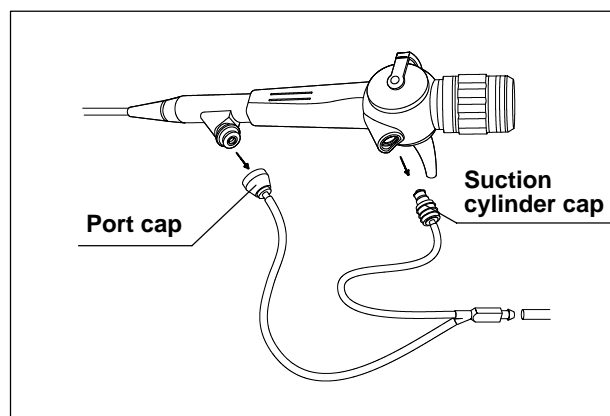

Figure 7.12
8. Hold the control section with the instrument channel port pointing down and disconnect the suction cleaning adapter from the endoscope (see Figure 7.12).
6. Hold the control section with the instrument channel port pointing down and disconnect the suction cleaning adapter from the endoscope (see Figure 7.12).